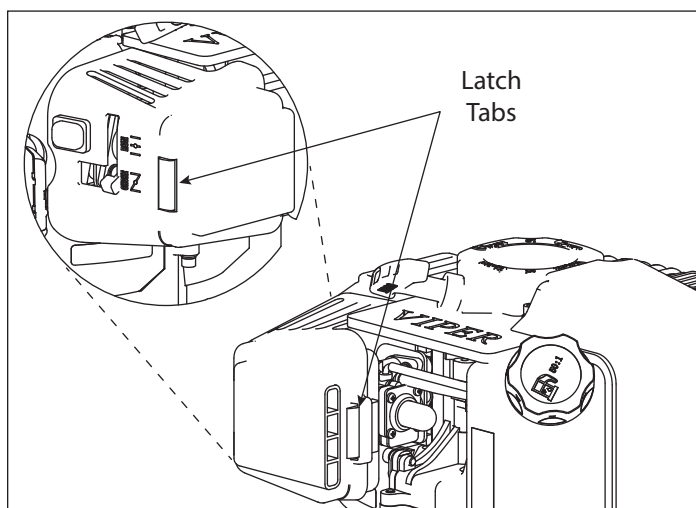

Figure 5
2. To remove air filter cover, squeeze the latch tabs on both sides of the cover. **SEE FIGURE 5.**